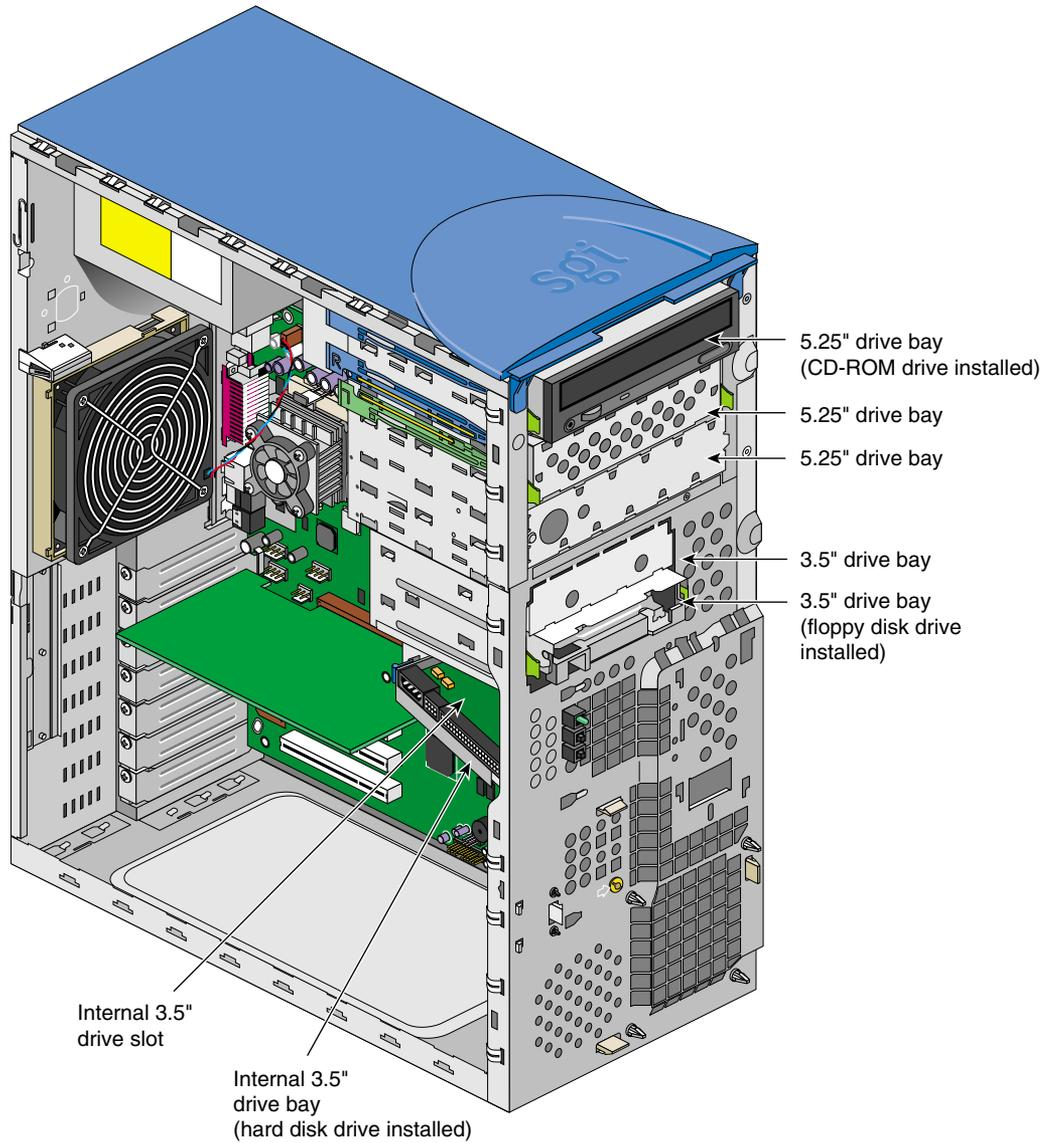

Figure 1-5 5.25-inch and 3.5-inch Drive Bays
- The Silicon Graphics 230 Visual Workstation has three 5.25-inch and four 3.5-inch drive bays, as shown in Figure 1-5. All three 5.25-inch drive bays are externally accessible from the front panel. Two of the 3.25-inch drive bays are located on the front panel—the other two are housed and accessible inside the chassis.